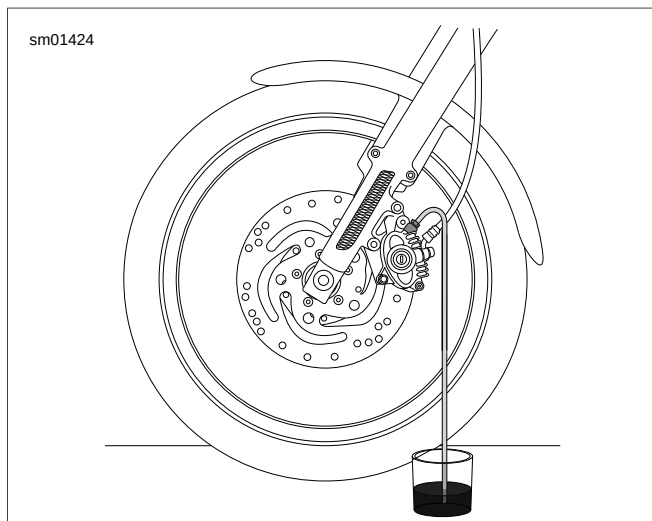

Figure 1-14. Bleeding Hydraulic System (typical; XL model shown)
5. See Figure 1-14. Install end of a length of 5/16 in. (7.9 mm) I.D. clear plastic tubing over caliper bleeder valve. Place free end of tube in a clean container.